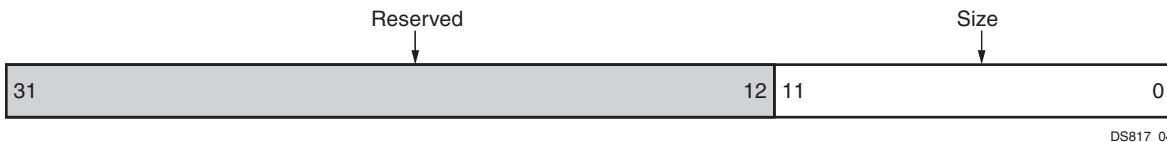

Figure 4: Size Register (SZ)
The Size (SZ) register shown in Figure 4 is a 12-bit write register that determines the number of words to be transferred from the ICAP to the read FIFO. The bit definitions for the register are shown in Table 7. The offset and accessibility of this register from the C_BASEADDR value is as shown in Table 4.